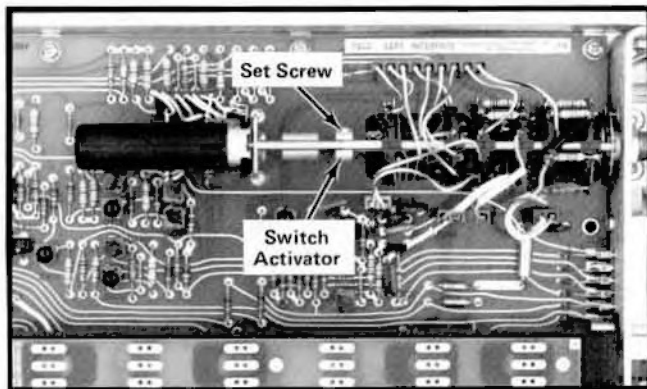

Fig. 4-2. Readout adjustment location, instrument left side.
4. Use a .050 Allen wrench to loosen the setscrew; see Fig. 4-2.